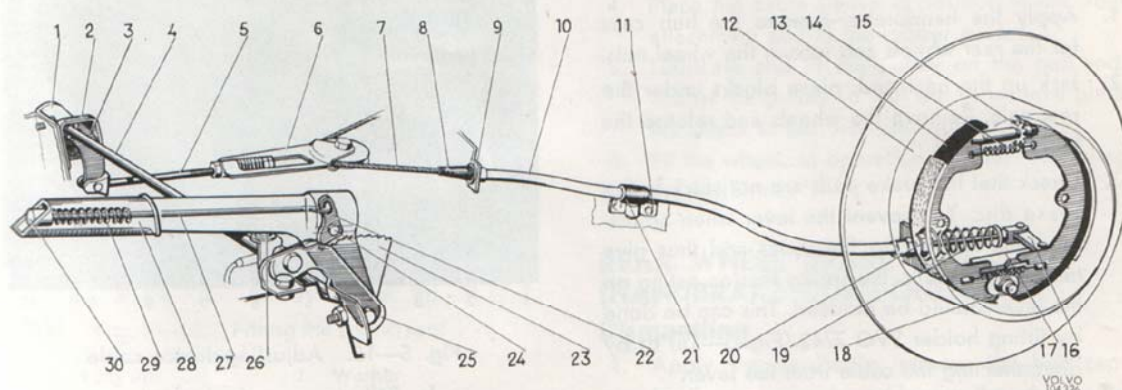

Fig. 5-12. Handbrake system
The construction of the handbrake is shown in Fig. 5-12. The handbrake lever is mounted on the floor on the outside of the driving seat. The movement of the lever is transmitted via the shaft (4), lever and pull rod (5) to the pulley (6). From there the movement is transmitted through the cable (7) to the wheel brake units. At each rear wheel, the movements of the cable influence the lever (16), which is carried in a movable rod (17) on the brake shoes. The lower ends of the brake shoes are held pressed against the anchor bolt (18) by the lower spring. The upper ends are jointed through the adjusting devices (15) to which they are held pressed by the spring (14), which also locks the small serrated wheel of the adjusting screw. Due to this type of suspension, the brake shoes are selfcentering and both the shoes are partly self-applying (Duo-Servo). The brake drum is tilted on the drive shaft and so designed that it also serves as a brake disc for the footbrake.
- Remove the rubber cover (8, Fig. 5-12) from the front attachment of the cable sleeve, also the nut as well as the attachment for the rubber suspension ring on the frame member. Remove the cable from the other side of the attachment in the same way.